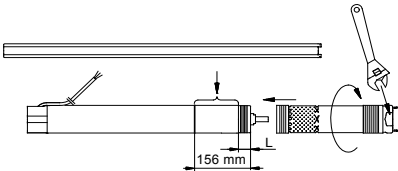

Fig. 6
- 1. Place the motor horizontally in a vice and tighten it. See fig. 6.
- 4. Screw the pump part on the motor (55 Nm). **Caution:** The pump shaft must engage with the motor shaft. A spanner may be used on the clamping faces of the pump part. See fig. 6.